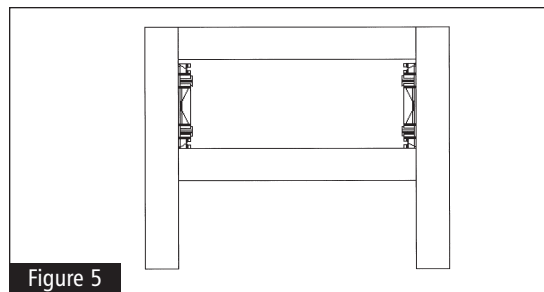

Figure 5
**5** Attach drawer front to cabinet by pressing the DDF Fastener Female that is attached to the drawer front over the DDF Fastener Male part that is attached to the cabinet frame. See Figure 5.